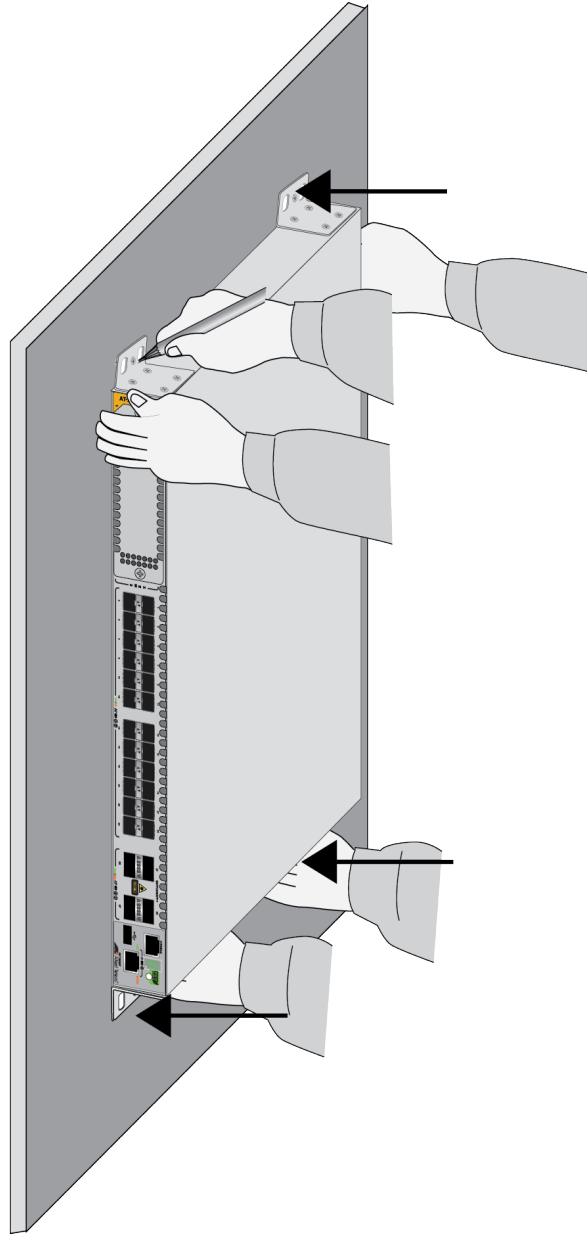

Figure 96. Marking the Locations of the Bracket Holes on a Concrete Wall
3. Have two people hold the switch on the concrete wall at the selected location for the device while you use a pencil or pen to mark the wall with the locations of the four screw holes in the four brackets. Refer to Figure 96 on page 164.